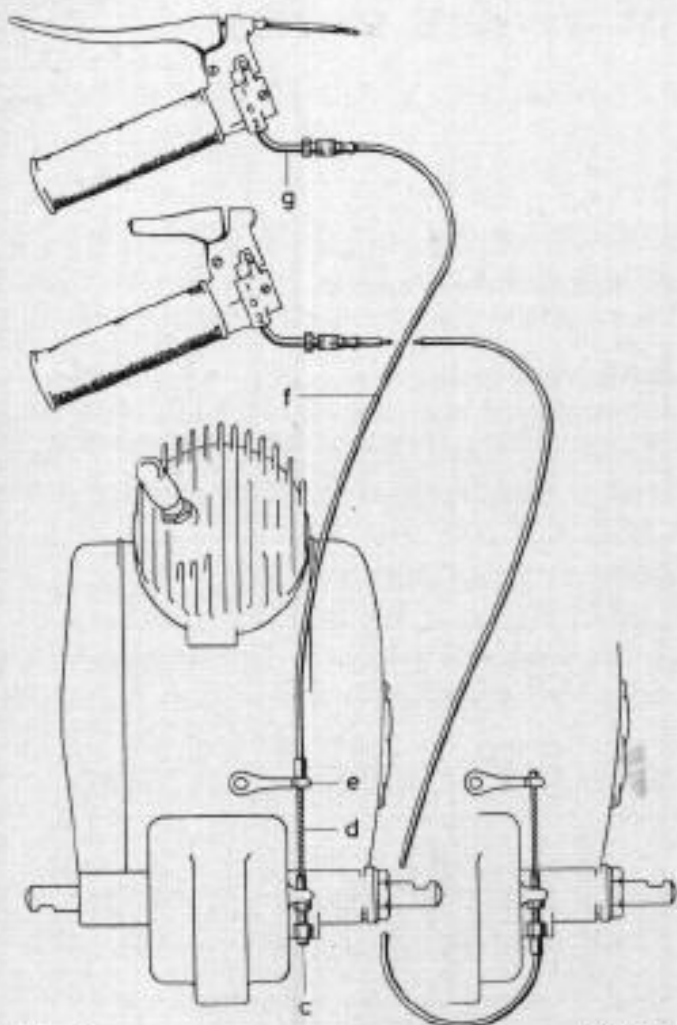

Fig. 54
**6.4 Location and adjustment of cable to gear shift (Fig. 54)**
Fig. 54 illustrates both possibilities for locating the cable, although we would recommend using the left-hand assembly if possible. Engage the 2nd. gear. There should be a slight amount of play on the Bowden coil, which can be felt when engaging the 2nd. gear. If necessary reset the adjuster screws (c).